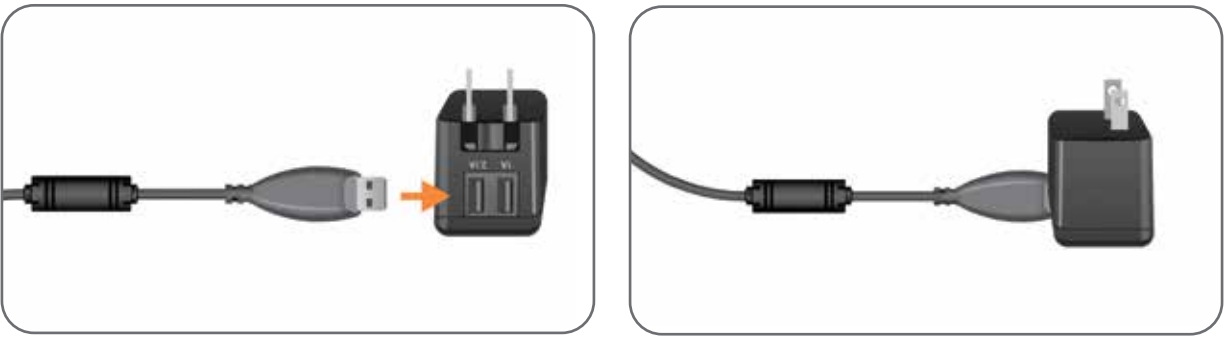

Figure 4-6: Inserting USB Charging Cable into AC Adapter
2. Insert the USB end on the magnetic charging cable into either of the two available USB ports on the AC adapter. See Figure 4-6.